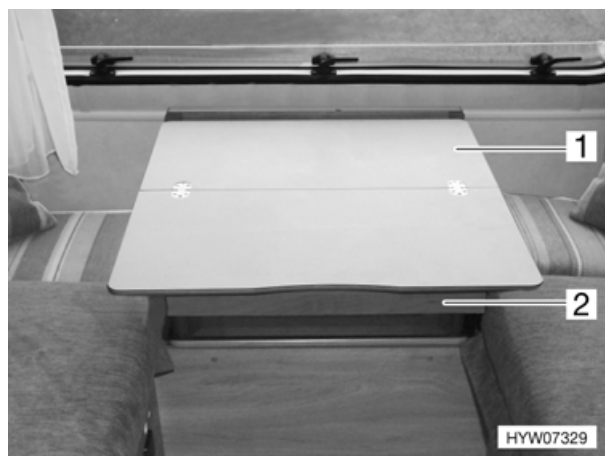

Fig. 27 Folding table, bedside locker
- Pull the complete cover plate of the bedside locker (Fig. 27,2) forwards.
- Fold the upper part of the cover plate (Fig. 27,1) backwards (Fig. 27).